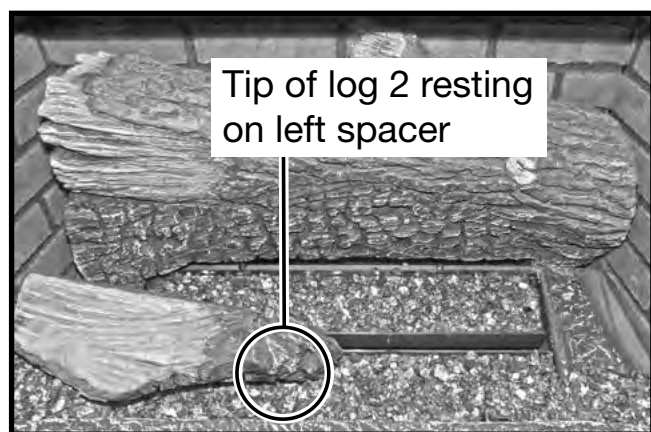

Figure 81: Log 2 positioned on spacer.
10. Place log number two (Figure 57) so that the post protruding from the bottom of the log can be inserted into the hole of the left base piece. Then position the front tip of the log so that it rests on top of the spacer (Figure 81). The log and the ember pieces should ideally hide the spacer.